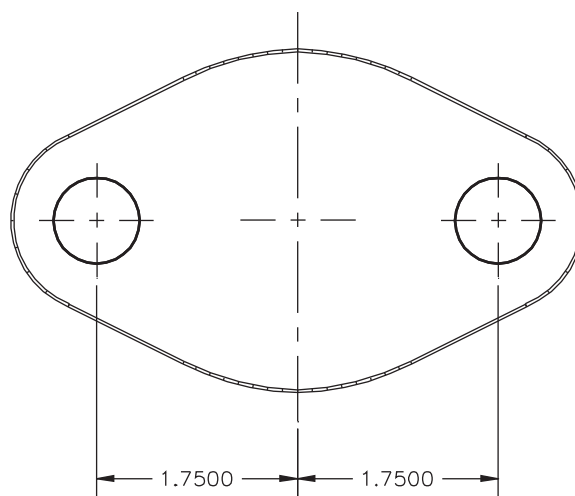

Fig. 44-5
The top view allows you to see the taper, as shown in Fig. 44-5, but without the two holes and the dimensions.
13. Pick the **Cylinder** button on the **Modeling** panel and place two cylinders as shown in Fig. 44-5 to represent the holes. Make their radius **.375** and their height **.5**.